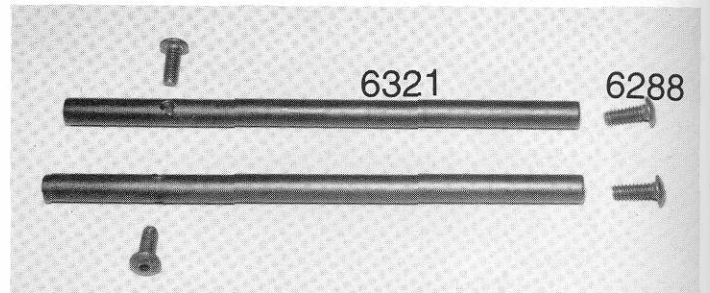

**Fig. 31**
□ **Figs. 31 & 32** Now go ahead and install one of the #6263 steering turnbuckles assembled in fig. 28 onto the right hand side steel ball ends on the #6221 nylon steering arms, and on the #6254 nylon bell crank arms (fig. 31). Do the left hand side. In bag #6-5 remove the #6330 body mount. Thread this onto the driver's right side screw as shown in fig. 32.